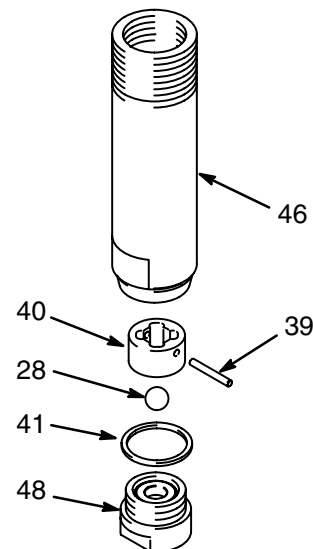

Fig 2
Unscrew the intake valve (48) from the cylinder (46). If the valve is seized in the housing, squirt penetrating oil around the threads and gently tap around the housing with a light hammer to loosen. See Fig 2 and 4. Remove the ball guide (40), the stop pin (39) and the ball (28). Clean and inspect the parts for wear or damage.